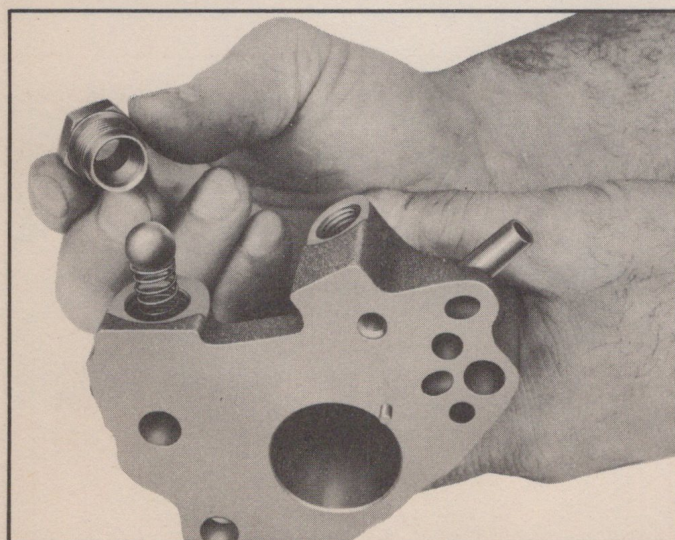

Fig. 168—Removing Check Valve Seat, Ball and Spring
10. Remove rear pump check valve seat, ball and spring (Fig. 168).